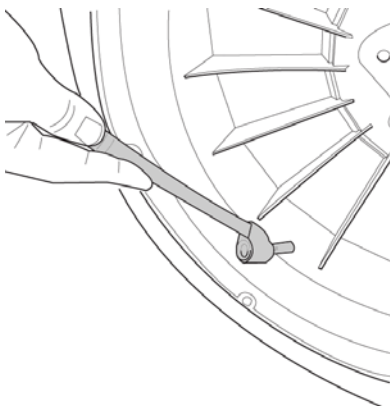

Figure 4-17: Inflate Tire
7. Using air pump with Schrader valve attachment (or other source of forced air), inflate tire enough to seat tire beads (Figure 4-17). It may be necessary to over-inflate tire to properly seat tire beads. When properly seated, tire and wheel will have an even, slight gap. Ensure tire stem is angled 45 degrees toward chassis.